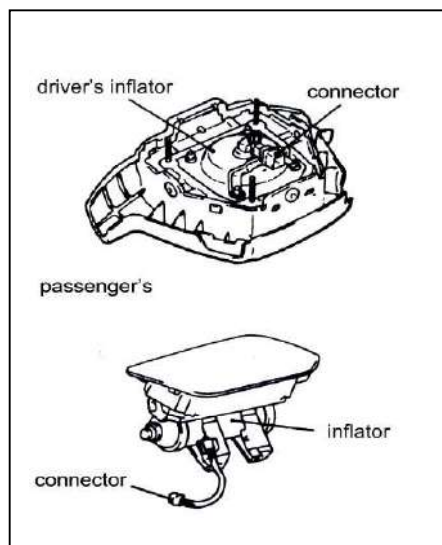

Fig 19-30
1)Driver's and passenger's air bag module inspection. (See fig 19-30)